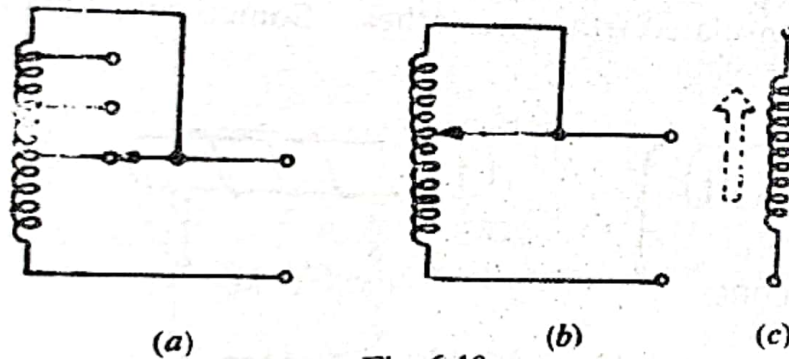

Fig. 6-18
The inductance of a coil can be varied by the three different methods shown in Fig. 6-18.
1. by using a tapped coil as shown in Fig. 6-18 (a). Here, either more or fewer turns of the coil can be used by connection to one of the taps on the coil.
2. by using a slider contact to vary the number of turn used as in Fig. 6-18 (b).
3. Fig. 6-18 (c) shows the symbol for a coil with a ferrite slug which can be screwed in or out of the coil to vary its inductance.